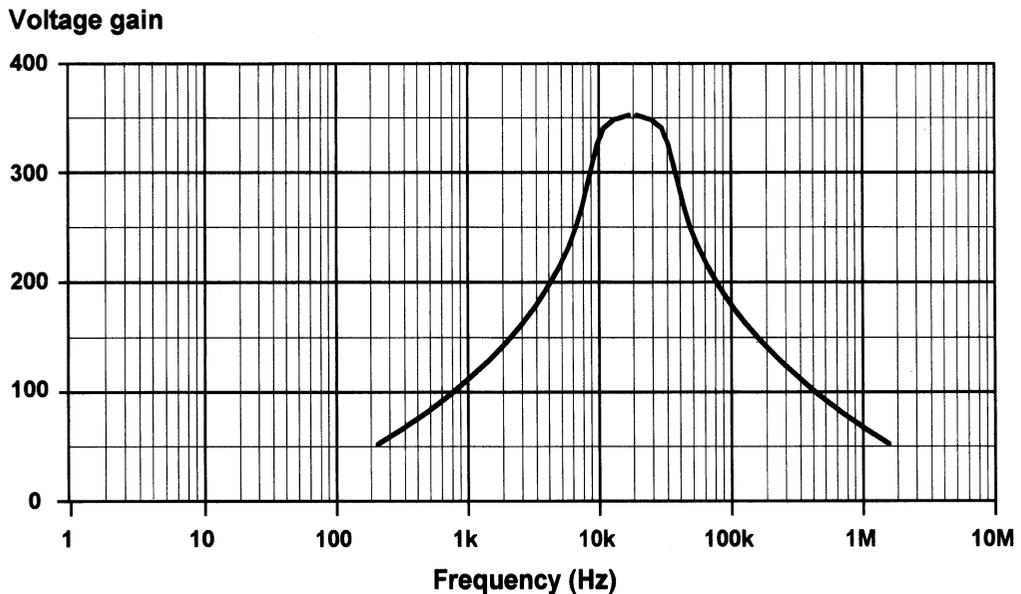

Figure A2.15
35. Figure A2.15 shows the frequency response of an amplifier. Determine the bandwidth of the amplifier. [Page 120]